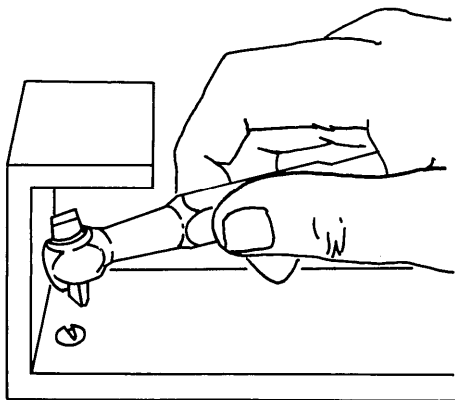

Figure 4-18. Using Offset Ratchet Screwdriver
(3) *Use of offset screwdriver.* The procedure for using an offset screwdriver is as follows (see figure 4-18):
(4) Use of offset-ratchet screwdriver. An offset-ratchet screwdriver is used as follows: (see figure 4-18).